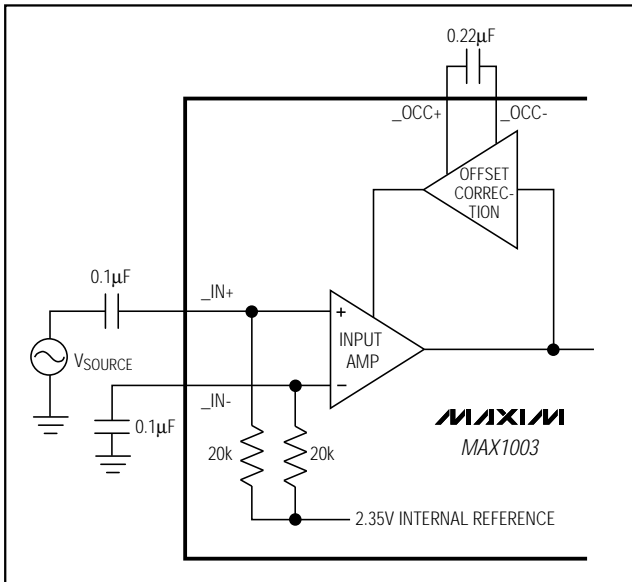

Figure 2. Single-Ended AC-Coupled Input
**Note 5:** Offset-correction compensation enabled, 0.22 $\mu F$  at Q and I compensation inputs (Figures 2 and 3).
Single-ended and differential AC-coupled input circuits are shown in Figures 2 and 3. Each of the amplifier inputs is internally biased to a 2.35V reference through a 20kΩ resistor, eliminating external DC bias circuits. A series 0.1μF capacitor is required at each amplifier input for AC-coupled signals.
compensation capacitor is required to set the dominant pole of the offset-correction amplifier's frequency response (Figures 2 and 3). The compensation capacitor will determine the low-frequency corner of the analog input response according to the following formula: